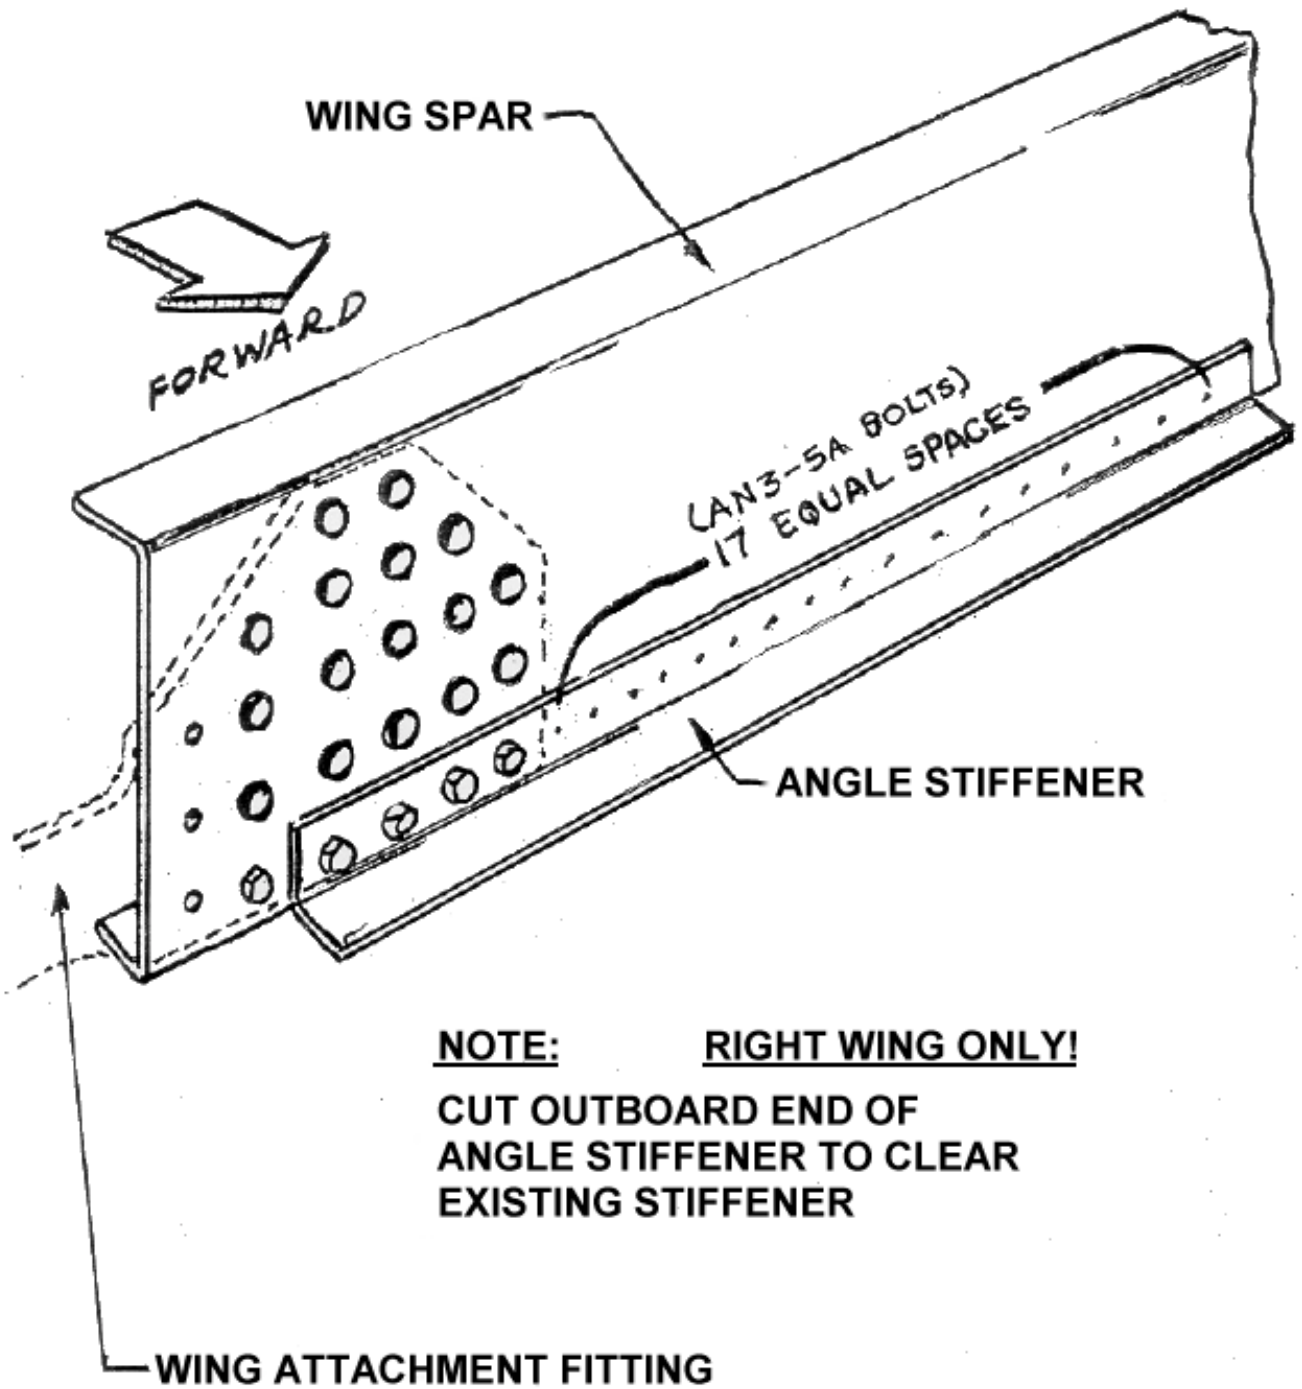

FIG. 1
3. Place 17W21028-1L angle in position shown on Figure 1. This is on the forward bottom side of the aft wing spar. Insert angle through spar lightening hole. Install second from inboard end bolt through existing hole in angle and clamp outer end of angle in position.
4. Mark location of seventeen holes to be drilled in spar web as shown on Figure 1 and drill through web and angle with a #10 (.193) drill. Install AN3-5A bolts, AN365-1032 nuts and AN960-10 washers.